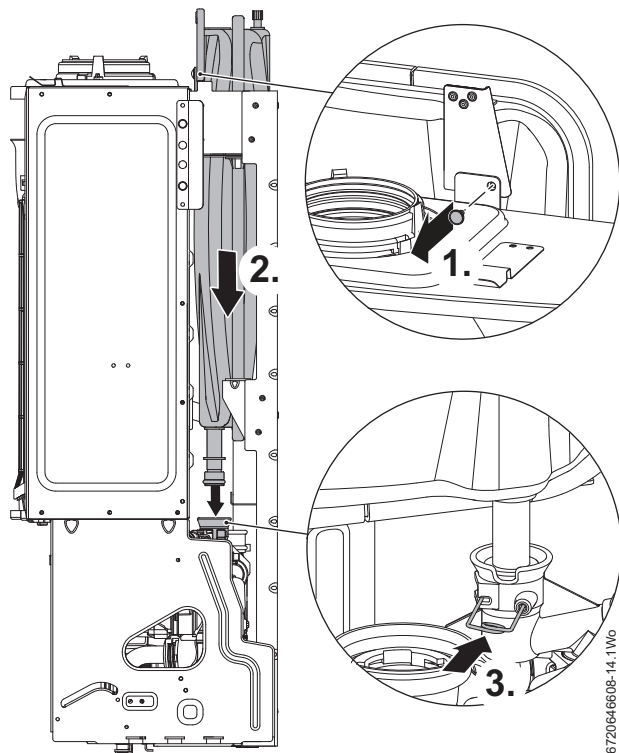

Fig. 37 Expansion vessel connection
1. Release the expansion tank from the retaining bracket, see fig 37.
2. Ensure that the wire retaining clip on the pump manifold is fully withdrawn, but not removed, before inserting the expansion vessel pipe into pump manifold, see fig. 37.